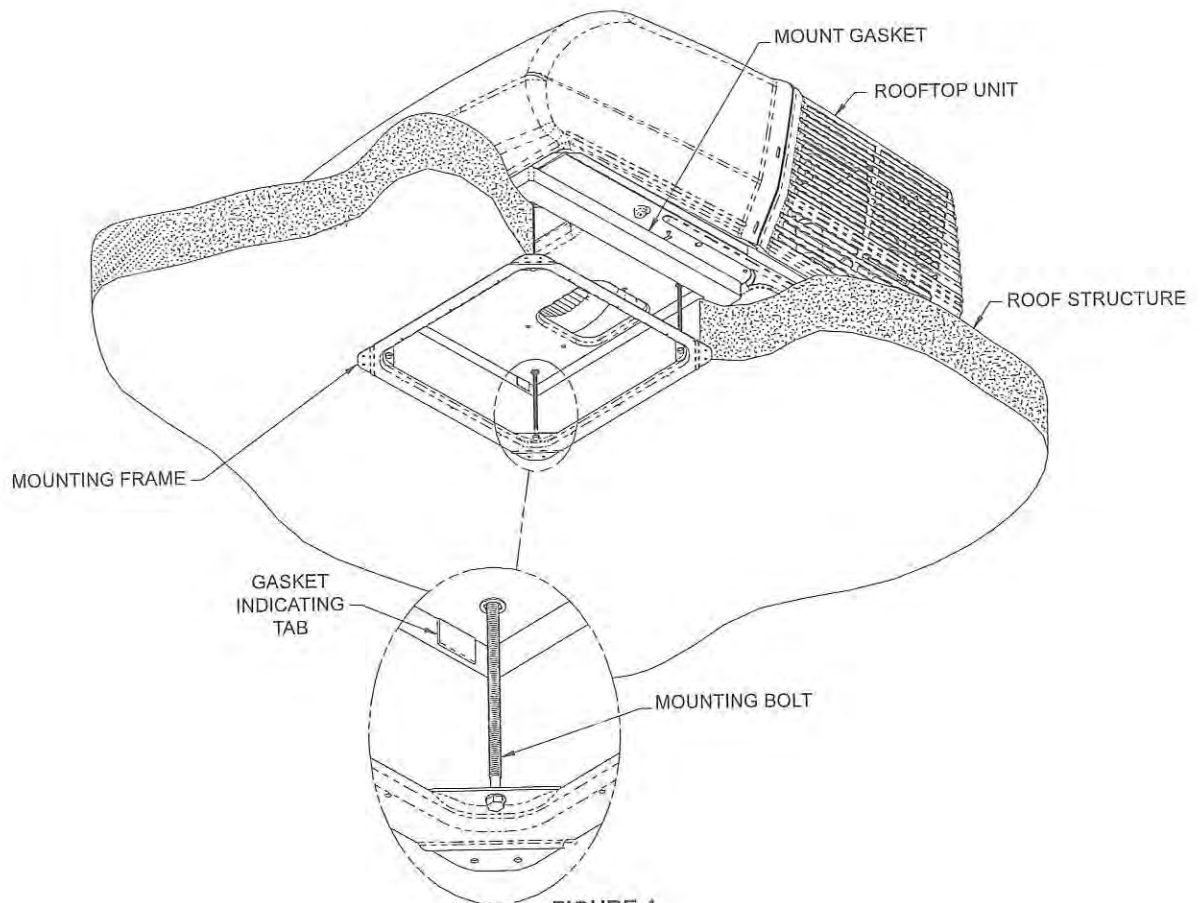

FIGURE 4
Follow the steps below to secure the air conditioner to the roof. Refer to Figure 4.
3. Proper tension has been achieved for each bolt when any portion of each gasket indicating tab has been pulled down even with the roof. See Figure 4. The upper unit has now been properly installed with optimum gasket compression.